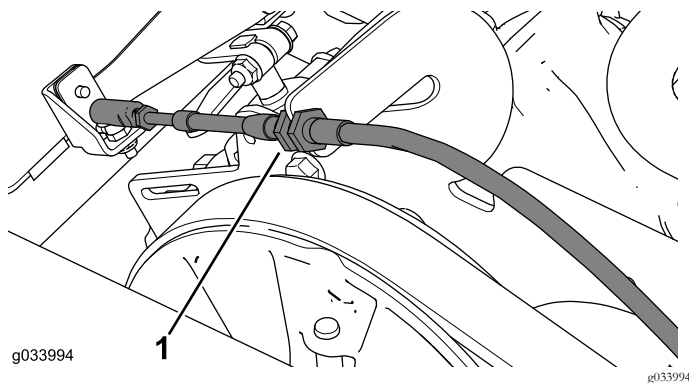

Figure 10
4. Disconnect the shift cable from the shift-cable bracket and remove it from the shift-cable bracket (Figure 10).